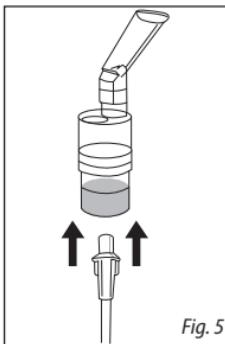

Fig. 5
- Attach the nebulizer to the air tubing, Fig 5.